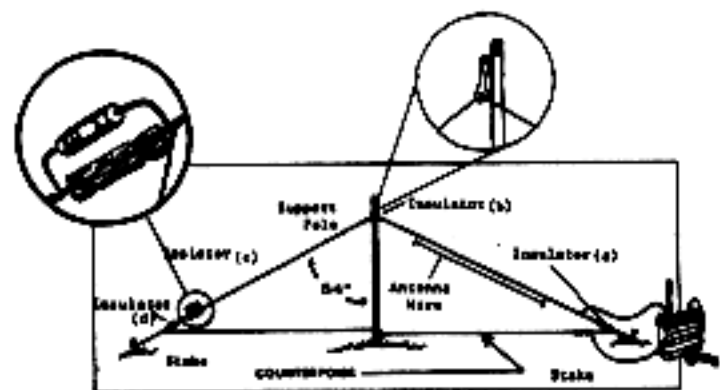
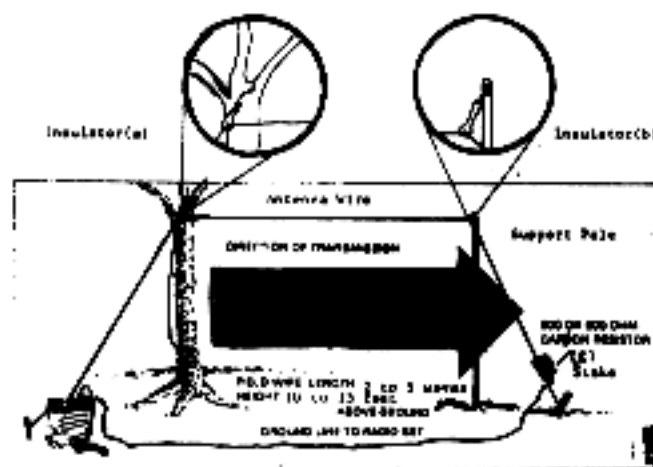
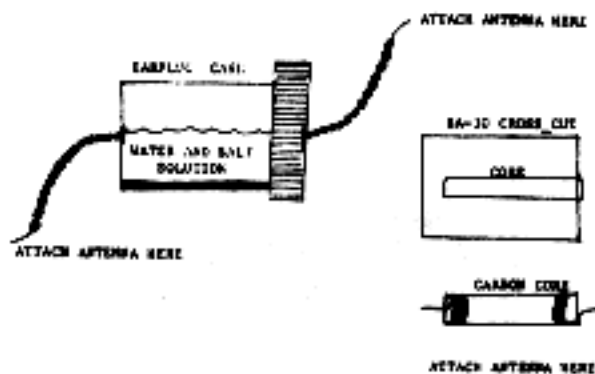

Figure 7-5. Vertical half-rhombic antenna.
Figure 7-6. Long-wire antenna
Figure 7-7. Expedient resistors. 500 to 1000 ohms (approx.)
d. Expedient Directional Antennas. The vertical half-rhombic figure 7-5, and the long wire antenna figure 7-6, are two expedient directional antennas. These antennas consist of a single wire, preferably, 2 or more wavelengths long, supported at a height of 3 to 7 meters (10 to 20) feet above ground. The antennas will, however, operate well as low as 1 meter above ground. The far end of the antenna is connected to a resistor of 500 to 600 ohms. Your commo sergeant can assist you in getting a resistor or you can fabricate one as in figure 7-7. A good ground, such as a number of tent stakes driven directly under the antenna or a counterpoise should be used to ensure that the earth does not absorb most of the radio's output. The radiation pattern is directional towards the end with the resistor.
f. Expedient Long Wire Antenna. The expedient long wire antenna is a directional antenna that can be easily fabricated out of readily available materials. A 500 to 700 ohm resistor should be used at the far end of the antenna, this can be acquired from your comco sergeant or made as in figure 7-7. To construct this antenna, cut the antenna wire (WD-1) to a minimum of 2 and up to 5 full wavelengths of your operating frequency. Attach one end of the wire to the long whip base of the radio set then run it thru the insulator as shown in figure 7-6(a); run the wire thru the second insulator 7-6(b) down to the resistor 7-6(c) and terminate the antenna wire at the ground stake. Attach another wire to the opposite end of the resistor and run this wire back to the radio set and attach it to the radio set case (ground). Direction of transmission will be towards the end of the antenna with the resistor. Turn on radio and attempt communications.
a. An old cylindrical type ear-plug case makes the simplest and most adequate resistor. To make a resistor, cut the chain on the earplug case close to the center. Open the case and fill it with water from your canteen, pour 1 to 2 packets of salt from your MRE accessory pouch into the water and reseal the container. Attach one end of the antenna wire to one side of the earplug case figure 7-7, attach the other side of your antenna wire to the opposite side of the earplug case and complete the circuit as in the instructions for the specific antenna.